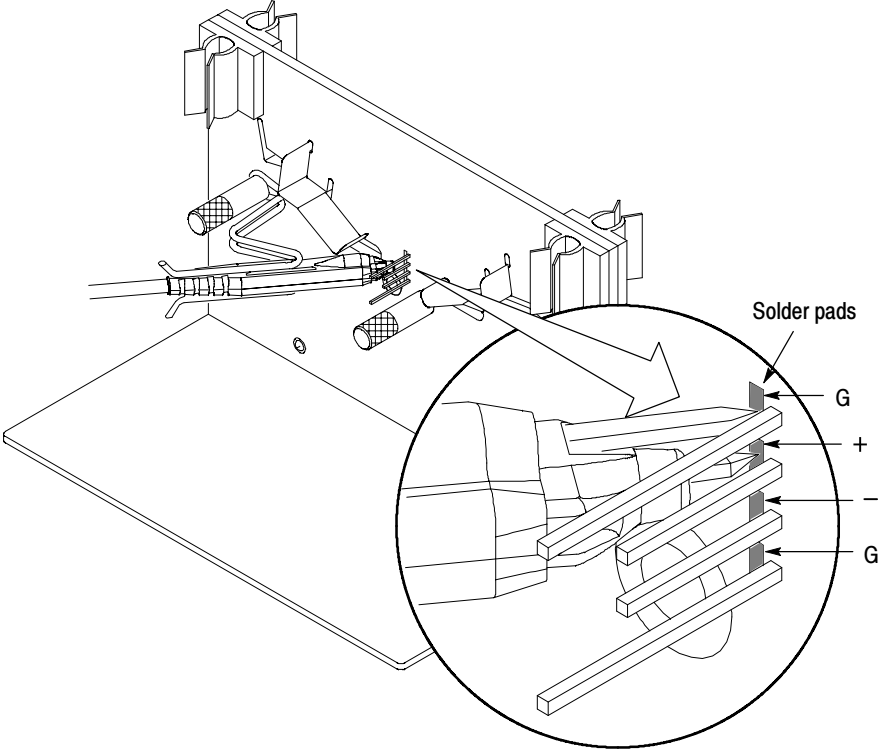

Figure 7: P6249, P7240 or P7260 with tips
4. Position the probe tips to the solder pad locations with the appropriate polarity. See Figures 7 and 8 on page 9.